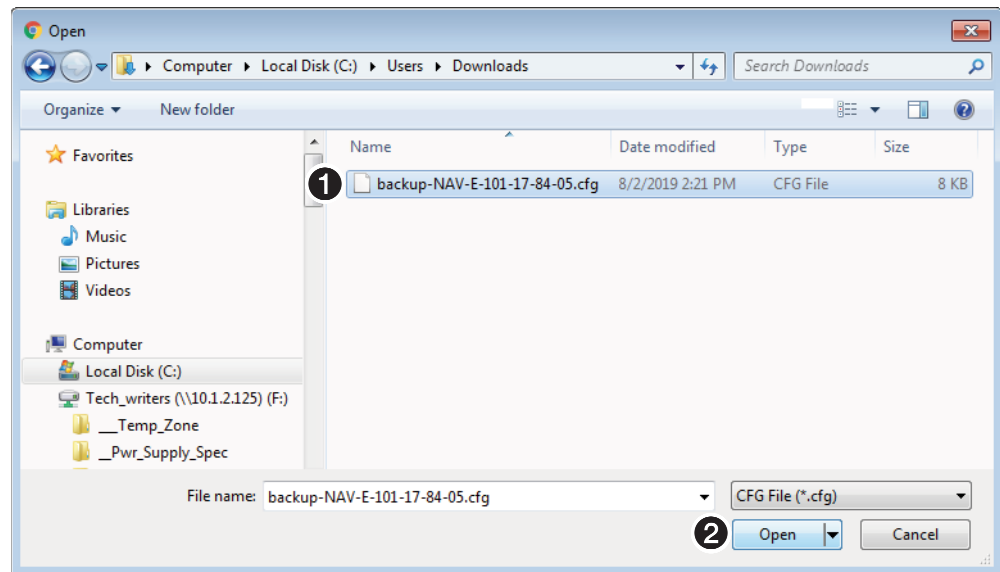

Figure 29. Open Dialog Box
An Open dialog box opens (see figure 29).
3. Navigate to the folder where the Restore file is saved (typically the Downloads folder) (see figure 29, ❶). Select the file.